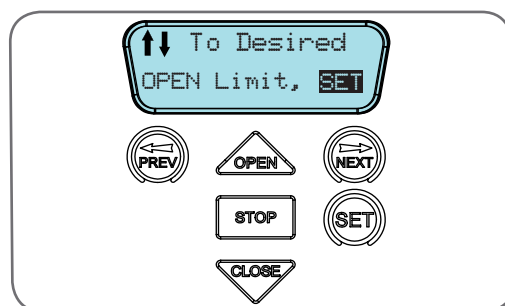

Fig 11.4
- When the door is at the desired close position, press the SET button to record the close limit position. The display will change and green open LED will start to flash (Fig. 11.4).